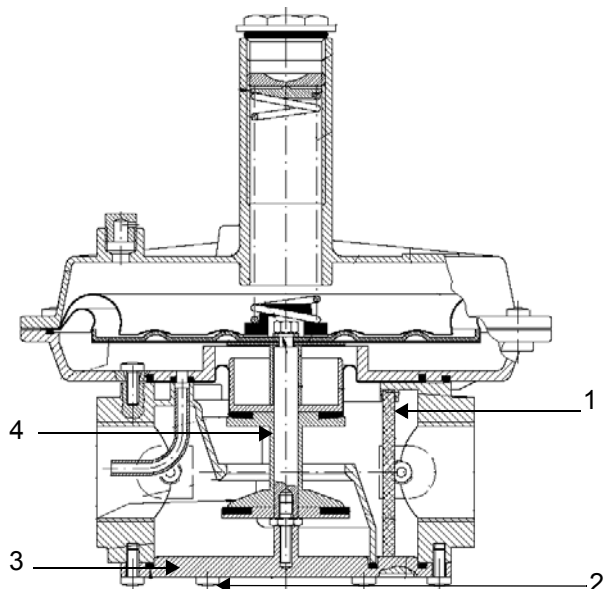

Fig. 22 - threaded body
To check the filtering part (1) on threaded bodies (see picture Fig. 22):
- remove the filtering part (1), clean it with water and soap, blow it with compressed air or replace it if necessary;
- reassemble the filtering part in its initial position checking that it is placed in its own slots (see picture Fig. 22);
- reassemble the bottom cover (3), being sure that the main bolt is centered in the bottom cover slot.